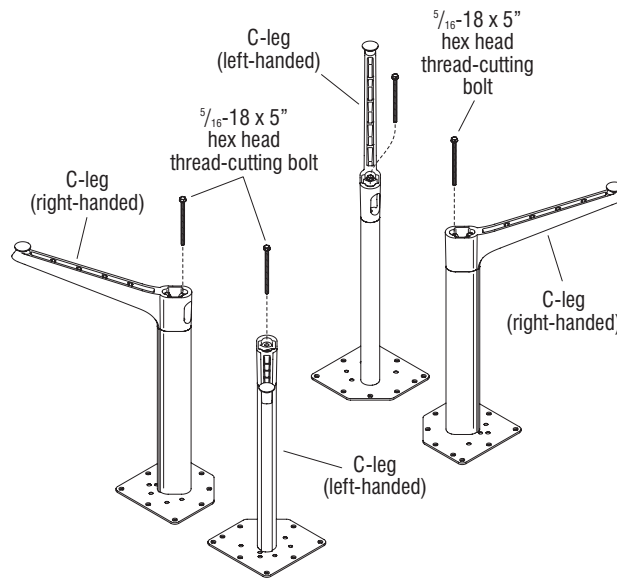

Figure 3
1. Remove the 5/16"-18 x 5" hex head thread-cutting bolt which is closest to the cross-brace mounting hole on the bottom-side heel of each C-leg (Figure 3 & Detail A).
2. Position a cross-brace between a pair of C-legs and orient the cross-brace so the stringer attachment bracket is pointing toward the center of the table and the U-shaped portion of the bracket points down as illustrated (Figure 3 & Detail B).